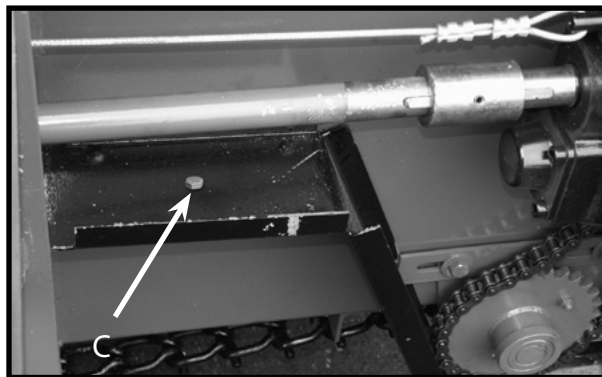
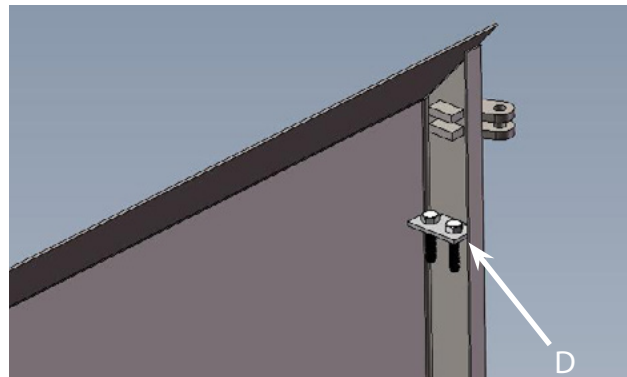

Figure 17-2
Figure 17-3
On MS125P spreaders, An extra shear bolt (5/16-18 x 2.5" grade 5) for drive shaft connecting to rear gearbox is carried in the shield shown at (C), Figure 17-2. On MS175P and MS250P spreaders, extra shear bolts (5/16-18 x 2.5" Grade 5) for drive shaft connecting to rear gearbox are carried in the shield shown at (D), Figure 17-3.